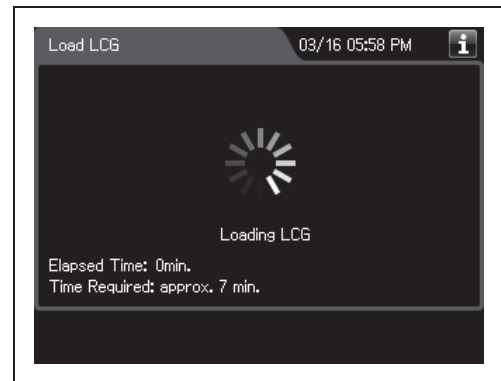

Figure 4.152
- Preparation of disinfectant solution includes single rinse process to rinse the reprocessing basin. While executing the preparation of disinfectant solution, buzzer beeps intermittently and the main control panel displays as shown in Figure 4.152. STOP button is deactivated during the process.